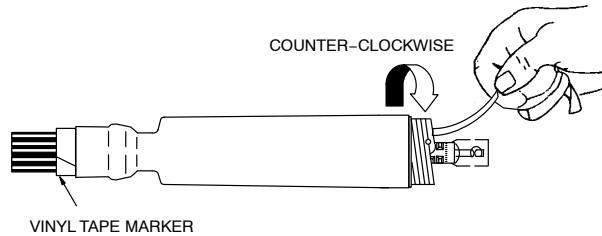

FIGURE 4
9. Re-position the terminator body on the cable and remove the core. Make sure the terminator body (not the core) is butted up to the edge of the vinyl marker tape. While removing the core, unwind it in a counter-clockwise direction. See Figure 4.